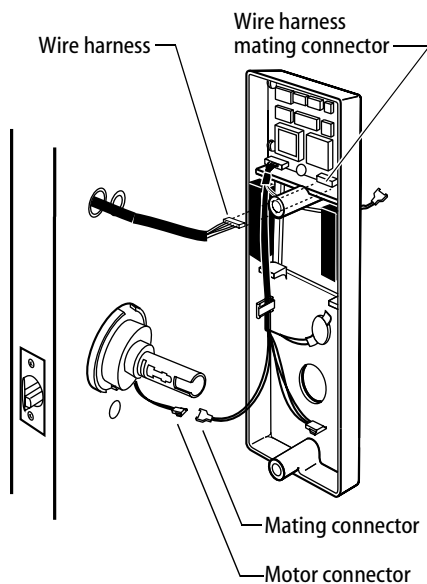

Figure 11
- 3 From the inside of the door, connect the motor connector to the mating connector from the circuit board (see Figure 11).